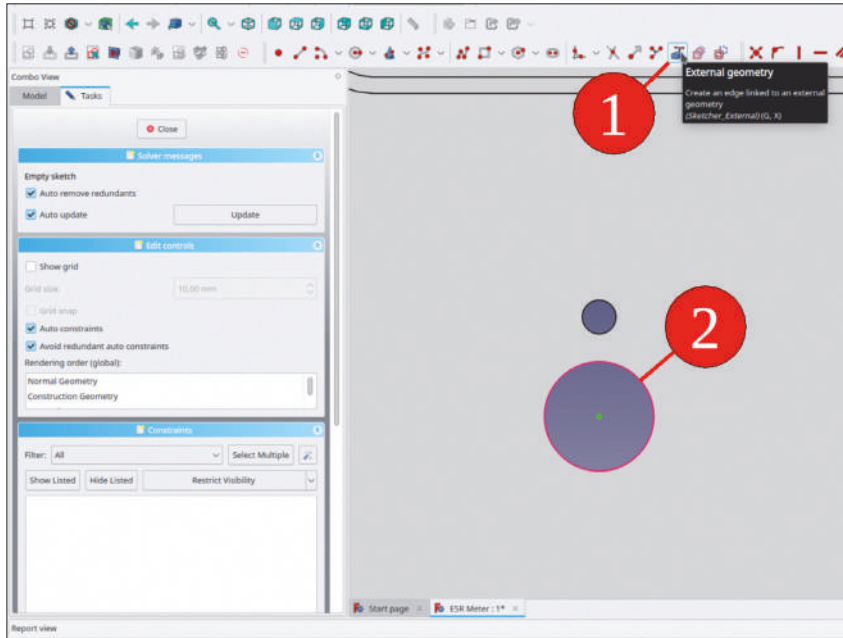

Figure 8-2
5. Click on the 'External geometry' tool button and mark the large hole of the rotary switch footprint (Figure 8-2), which is then displayed in violet as a construction element.